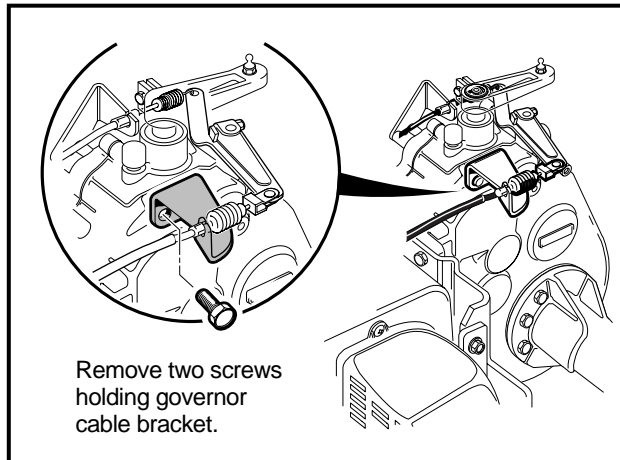

Figure 16-32 Governor Cable Bracket
18. Remove screws securing the governor cable bracket to transaxle (**Figure 16-32, Page 16-13**).